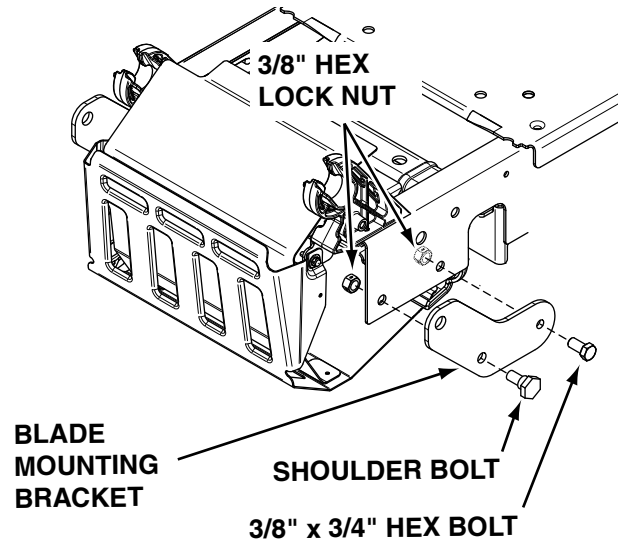

Figure 8
- c. Attach a blade mounting bracket to each side of the tractor frame using a shoulder bolt, a 3/8" x 3/4" hex bolt and two 3/8" hex lock nuts. See figure 8.